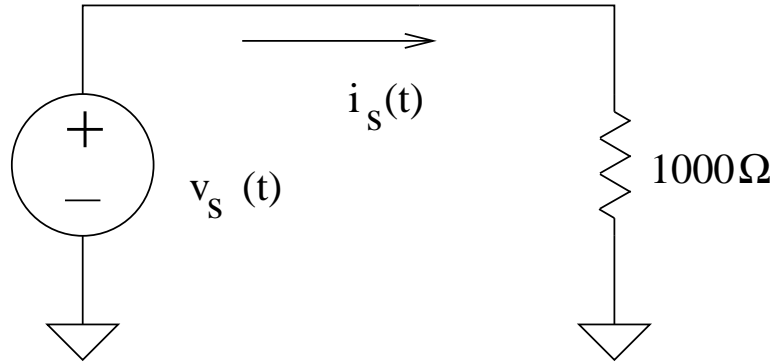

Figure 30: Circuit with time varying source
1. Consider the circuit in Figure 30. If the sinusoidal source has value $v(t) = A \sin(\omega t)$ volts, with an amplitude of 12 V and a frequency of 1000 Hz,
- iii. Draw the schematic for the circuit of Figure 30: